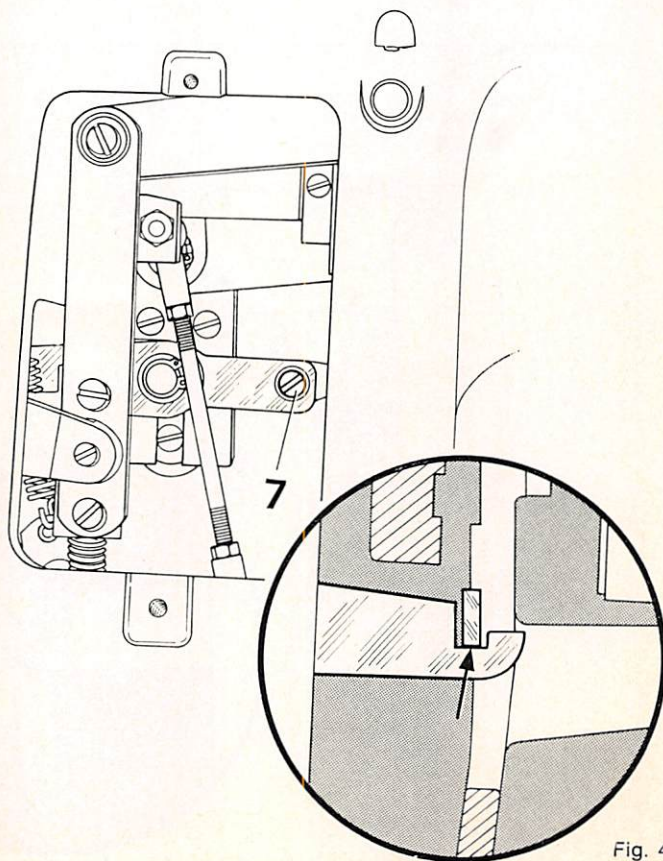

Fig. 4
4. **Vertical adjustment of starting latch (Fig. 4)**
- 4.3. Push the starting latch upwards until the locking lever contacts the bottom of the cutout in the starting latch. In this position, tighten screw 7 of the starting latch (see encircled view in Fig. 4).